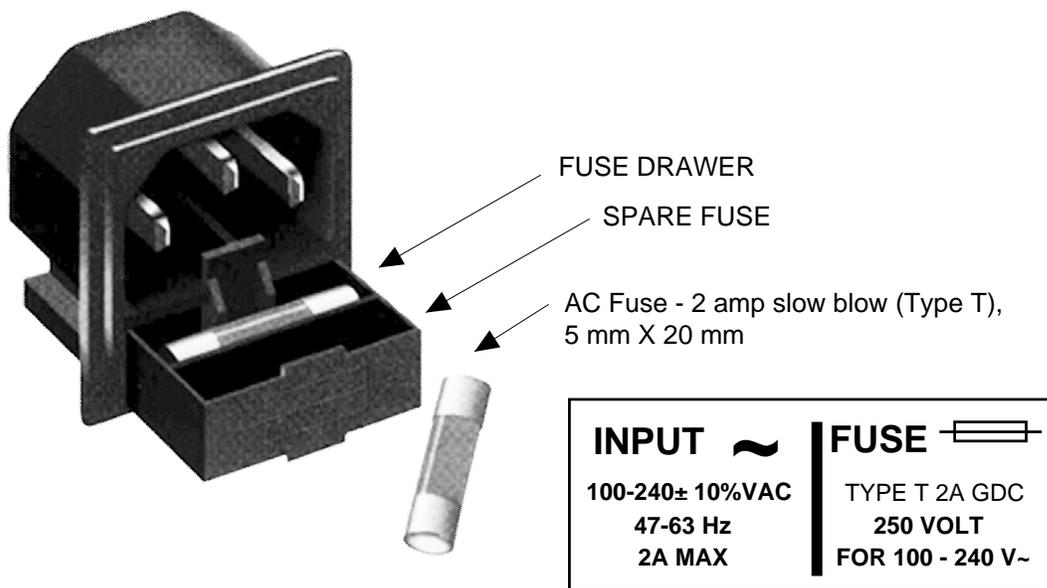

FIGURE 2.4 Fuse Location and Spare Fuse
9. **AC Fuse** - The fuse is a 5 mm X 20 mm, 2 amp slow blow (Type T) and is inserted in the far slot in the drawer below the AC input (Dual, redundant AC inputs if redundant power, Option R) as shown in Figure 2.4. There is a spare fuse in the near slot. If a fuse continues to open, the power supply is most likely defective.